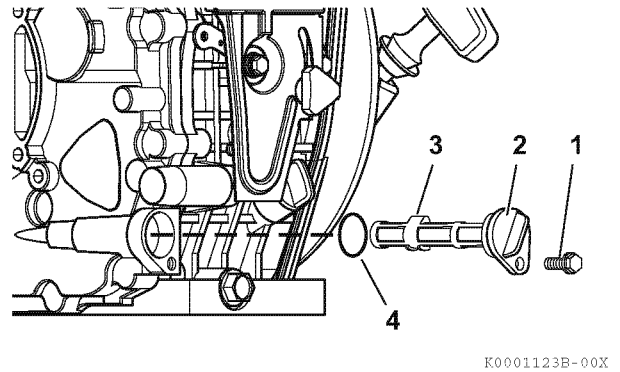

Figure 5-5
1. Remove the oil filter retaining bolt (1, Figure 5-5).
3. Pull the oil filter cap (2, Figure 5-5) out and remove the oil filter (3, Figure 5-5).
5. Lubricate the O-ring (4, Figure 5-5) with oil and reinstall the oil filter (3, Figure 5-5). Replace filter if damaged.
6. Make sure the oil filter cap is fully seated (2, Figure 5-5).
7. Reinstall and tighten the oil filter retaining bolt (1, Figure 5-5).